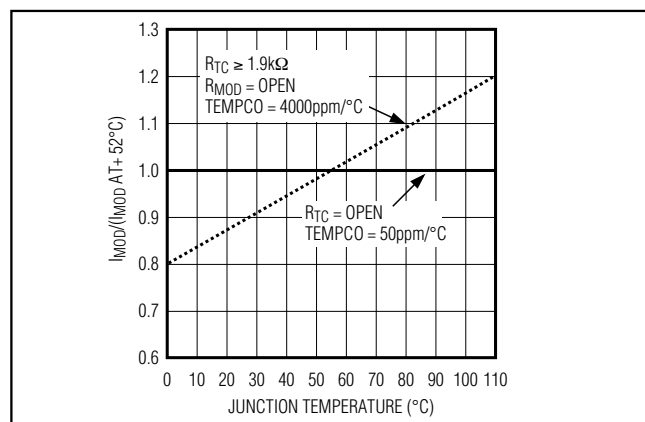

Figure 5. Modulation Current vs. Temperature for Maximum and Minimum Temperature Coefficient
The amplitude of the modulation current is set with resistors at the MODSET and temperature coefficient (TC) pins. The resistor at MODSET ( $R_{MOD}$ ) programs the temperature-stable portion of modulation current, while the resistor at TC ( $R_{TC}$ ) programs the temperature-increasing portion of the modulation current. Figure 5 shows modulation current as a function of temperature for two extremes:  $R_{TC}$  is open (the modulation current has zero temperature coefficient) and  $R_{MOD}$  is open (the modulation temperature coefficient is 4000ppm). Intermediate tempco values of modulation current can be obtained as described in the *Design Procedure* section. Table 3 is the  $R_{TC}$  and  $R_{MOD}$  selection table.